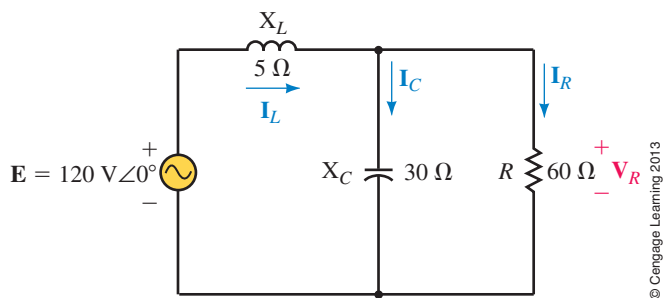

FIGURE 18-113
45. Refer to the circuit of Figure 18-113.